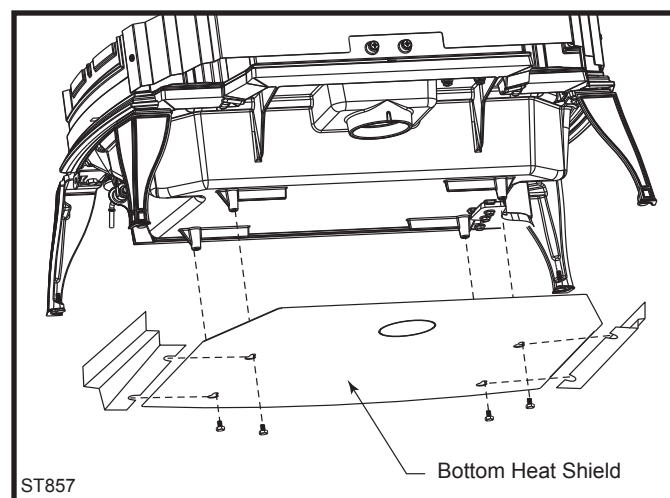

Fig. 22 Attach the bottom heat shield.
3. Pass all four bolts through the large end of the keyholes and then pulling the shield forward to engage the smaller ends of the keyhole slots. (Fig. 22)